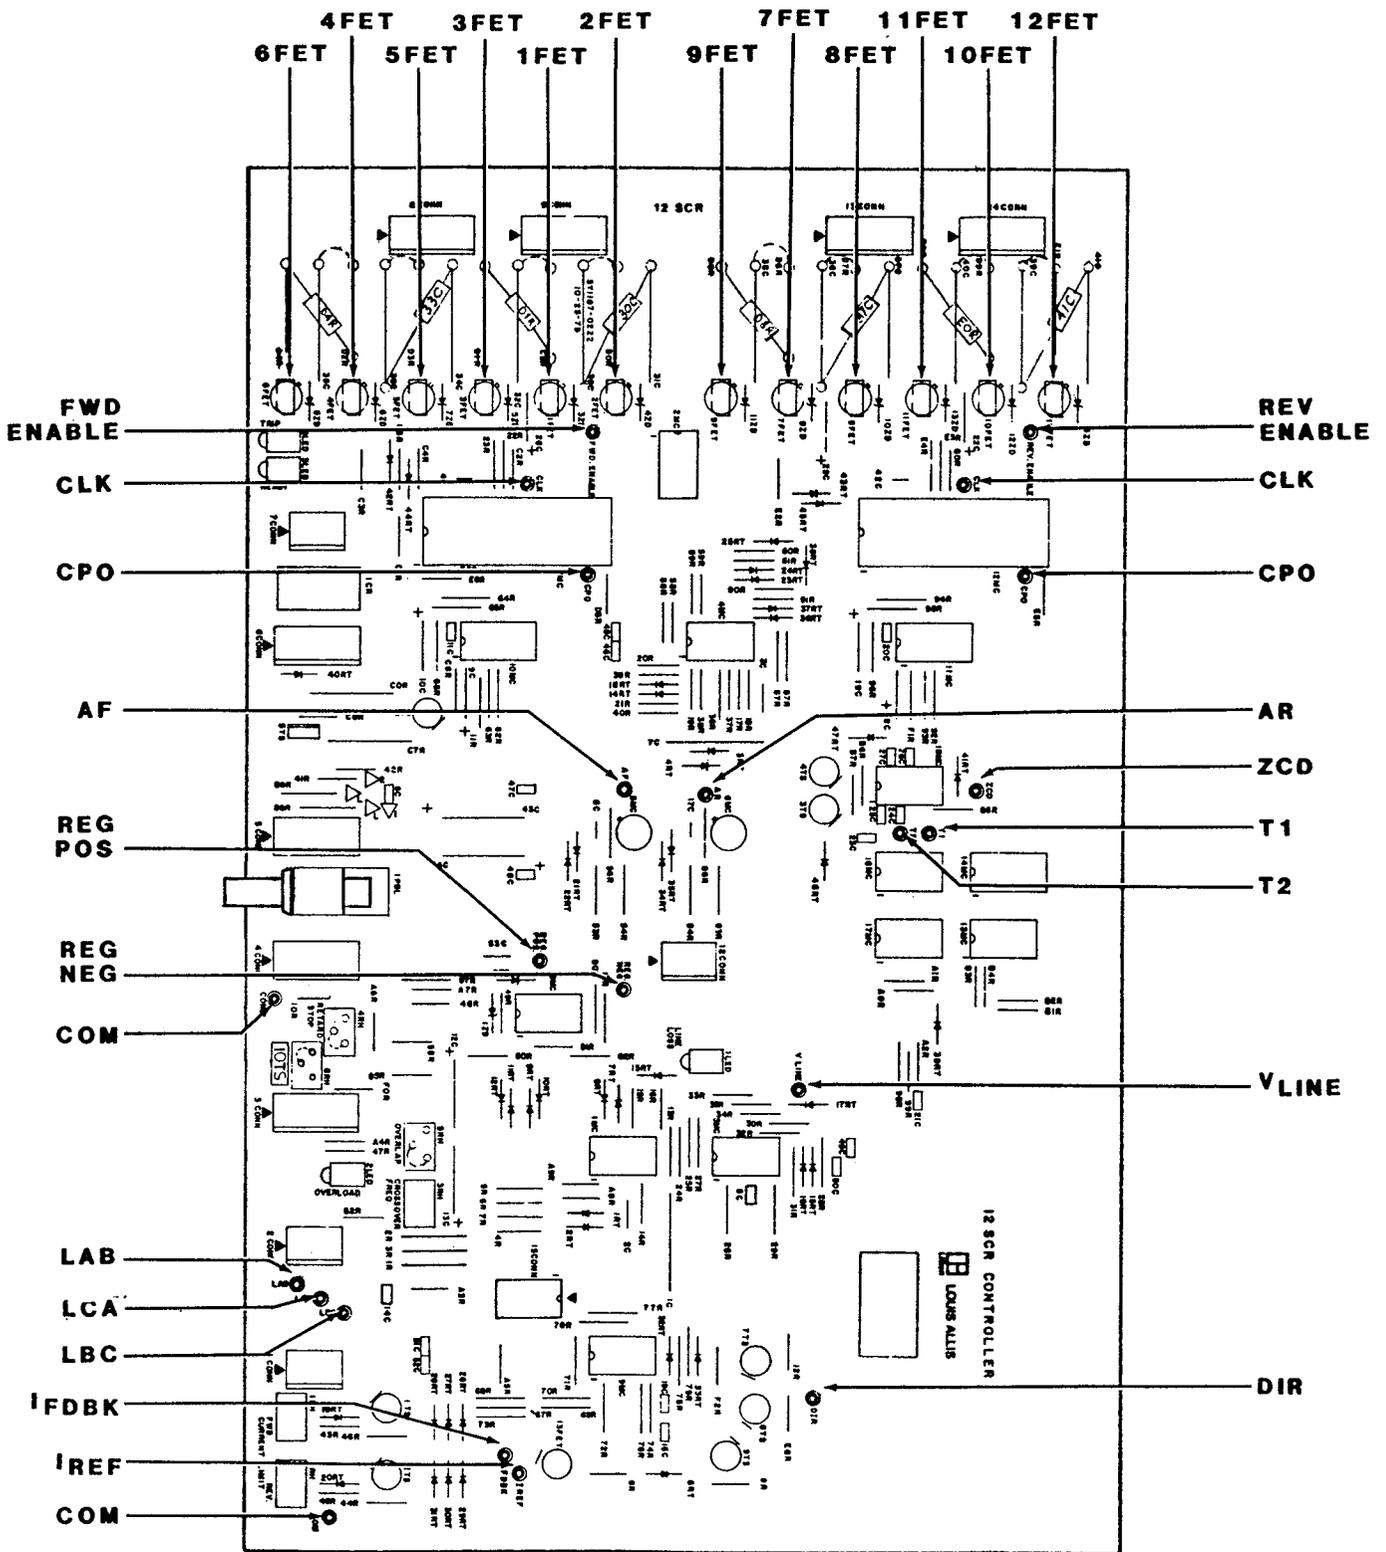

Figure 6-3. Main PCB Test Point Location
C. Figures 6-3 and 6-5 locate test points on the Main PCB and Reference and Actuator PCB, respectively.